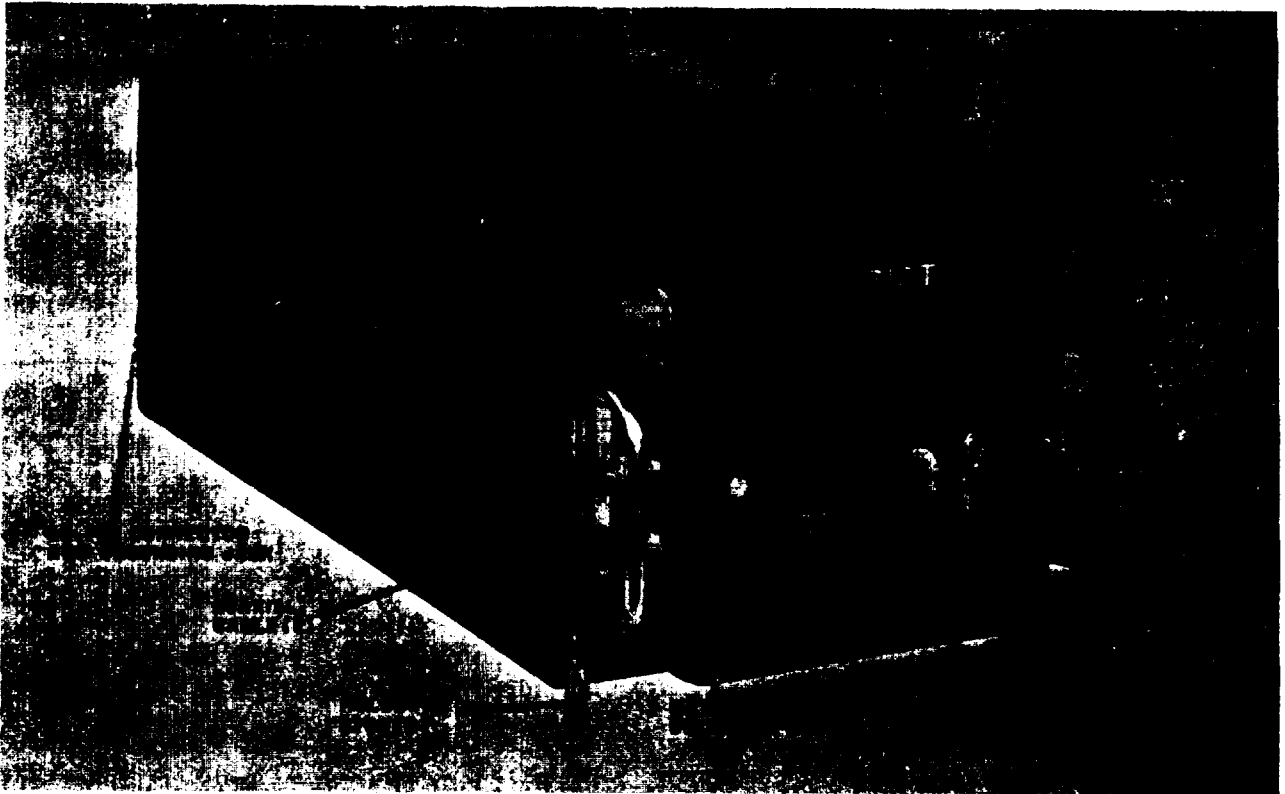

Figure 2. Receiver-transmitter.
b. THE components of the radio set are scoured to mounting surfaces within the aircraft. From the mounting and panel connectors, connections are made to the aircraft power source and the components of the radio act. The coaxial cable connection to the antenna is made either direct from the front panel of the receiver-transmitter (fig. 2) or through an antenna coupling unit (not part of the radio set paragraph 12f). The control unit is normally located in the radio control panel
9. Description of Receiver-Transmitter (fig. 2)